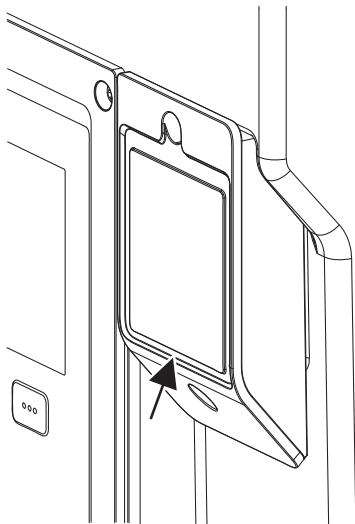

Fig. 27: Cover for Wilo-Smart Connect Module BT
1. Loosen the screw of the Wilo-Smart Connect module cover (Fig. 27) and open the cover.
Due to its design, the Wilo-Smart Connect Module BT can only be plugged in in one alignment. There is no further fixing of the module itself. The Wilo-Smart Connect module cover (Fig. 27) on the upper part of the electronic module holds the module firmly in the interface.